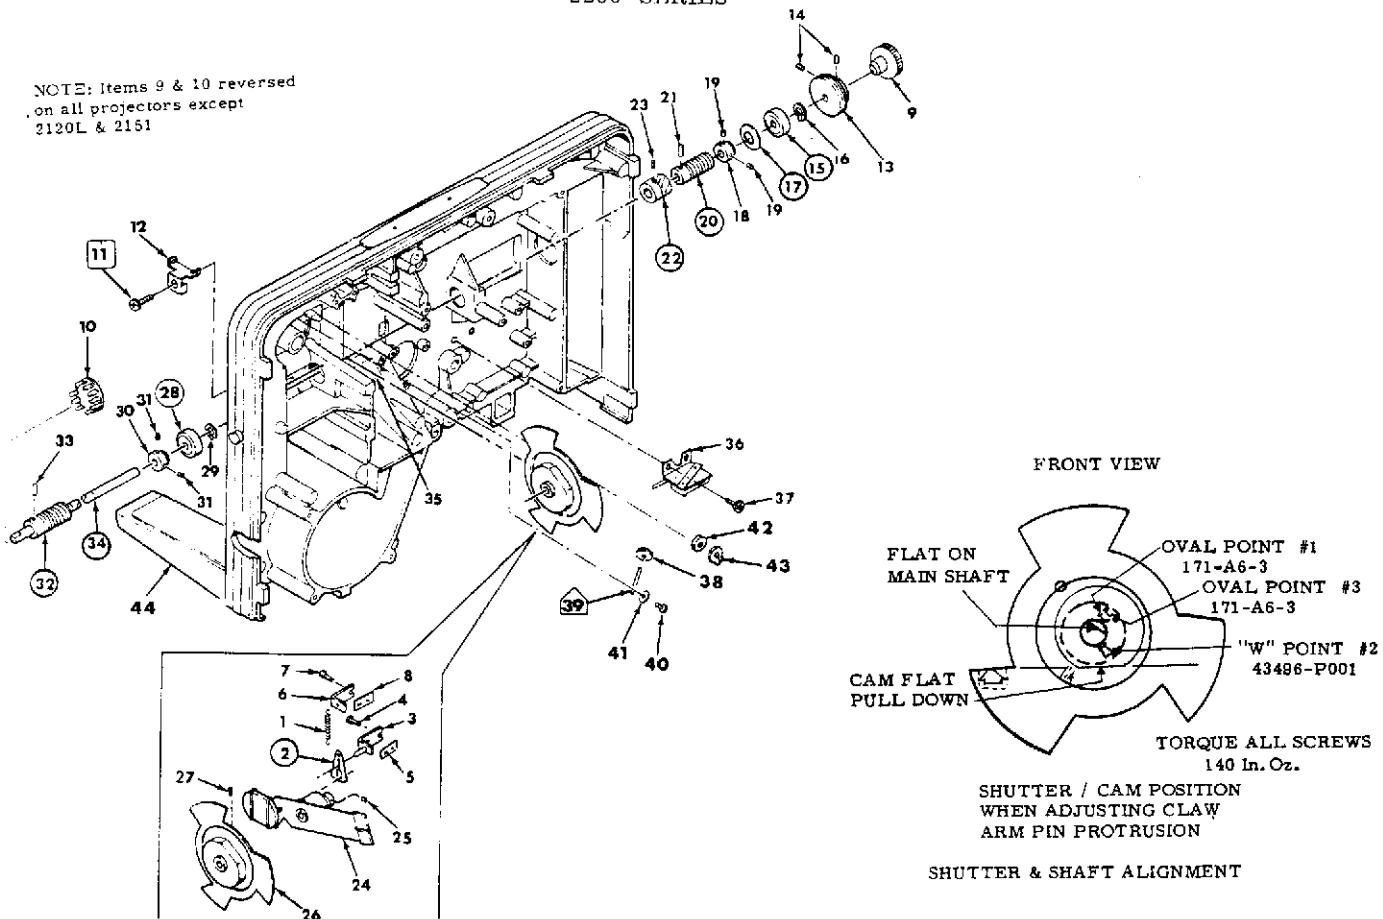

Figure 3-19. REMOVAL AND REASSEMBLY OF MAIN SHAFT
M. Removal of Main Shaft Ref. Figure 3-19
2. Loosen both Set Screws (14) in the Pulley (13) so the Pulley will rotate freely on the Main Shaft. (Figure 3-19)
3. Loosen both Set Screws (19) in the Collar (18) so the Collar will rotate freely on the Main Shaft (34).
4. Loosen Set Screw (23) in the pinion (22) so the Pinion will rotate freely on the main shaft.
5. Remove the oval point Jam Screw (27) and loosen the remaining two Set Screws in the Shutter and Cam Assembly (26) so the Cam Assembly will rotate freely on the Main Shaft.
6. Loosen both Set Screws (31) in the Collar (30) so the Collar will rotate freely on the Main Shaft.
7. Loosen Set Screw (25) in the Safety Shutter (24) so the collar of the Safety Shutter rotates freely on the Main Shaft. Unhook the Link (2) from the Safety Shutter and allow the Spring (1) to pull the Link against the Pin on the Bracket Assembly (3). (Disregard for projectors having no Safety Shutter.)
2. Apply a thin coat of DC 44 grease (39479-P9) to the outside circumference of main shaft Bearings (15) and (28).
3. Install "C" Rings (16) and (29) with Waldes retaining ring applicator CR-0310.
4. Align the Set Screws (31) in Collar (30) with their corresponding recesses in the main shaft and start tightening them. Be sure the points of the screws seat properly in the recesses. Otherwise, the main shaft will be burred and will not be positioned properly in the projector. It is best to tighten each one a little bit at a time and alternately with the other one until they cannot be tightened further. The main shaft should visibly move forward during the tightening process. Manually pushing the main shaft forward while starting to tighten these screws will help insure they are seated properly.
5. Tighten Set Screws (19) in Collar (18) observing the proper alignment and seating of the Set Screw points as noted in Step 4. The main shaft will not move forward when these screws are tightened.
6. Use a new Roll Pin (21) (P/N 191-N6-9) when reassembling Gear (20) to the main shaft.
7. Position the Pinion (22) .146" to .156" (diameter of a 5/32" drill bit) from the Drive Gear (20) and tighten Screw (23) on the flat of the main shaft.
9. Rotate the Main Shaft (34) until the flat on the shaft just behind the Front Bearing (28) is at about 2 o'clock (See Shutter and Shaft Alignment insert on Figure 3-19). Rotate the Shutter and Cam Assembly (26) until the Setscrew (#1 in insert) lines up with the flat on the Shaft (34). Gently push the Shutter and Cam Assembly forward while pushing down on the Claw Arm until the cam follower on the Claw Arm slips under the the Cam. Tighten the Setscrew (#1 in insert) on the flat of the Shaft (34). Make sure the Claw Arm is not hitting the Aperture Plate.